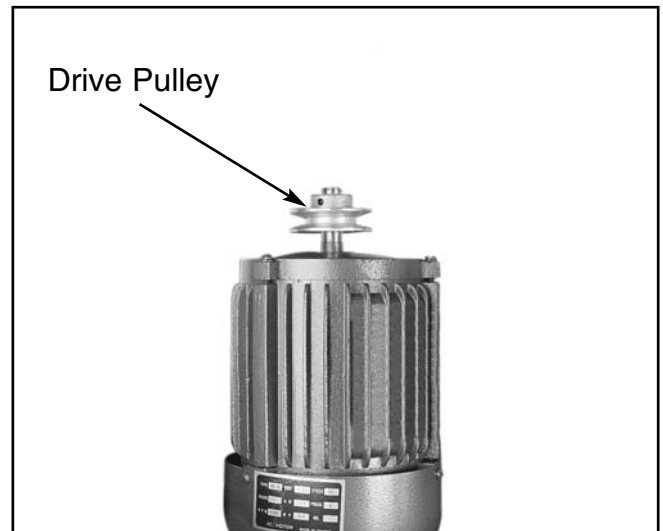

Figure 10. Drive pulley placed on shaft.
8. Place the drive pulley on the motor shaft and line up the keyways. Insert the key and tighten down the pulley setscrew. **See Figure 10.**